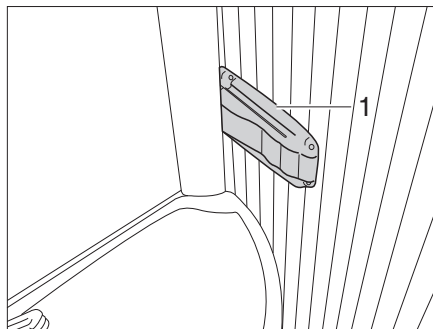

Fig. 348 Vario toilet, locking the shower wall
- Push the latch (Fig. 348,1) right on the edge of the wash basin and lightly pull the wash basin. The wash basin moves forwards with the rear wall.